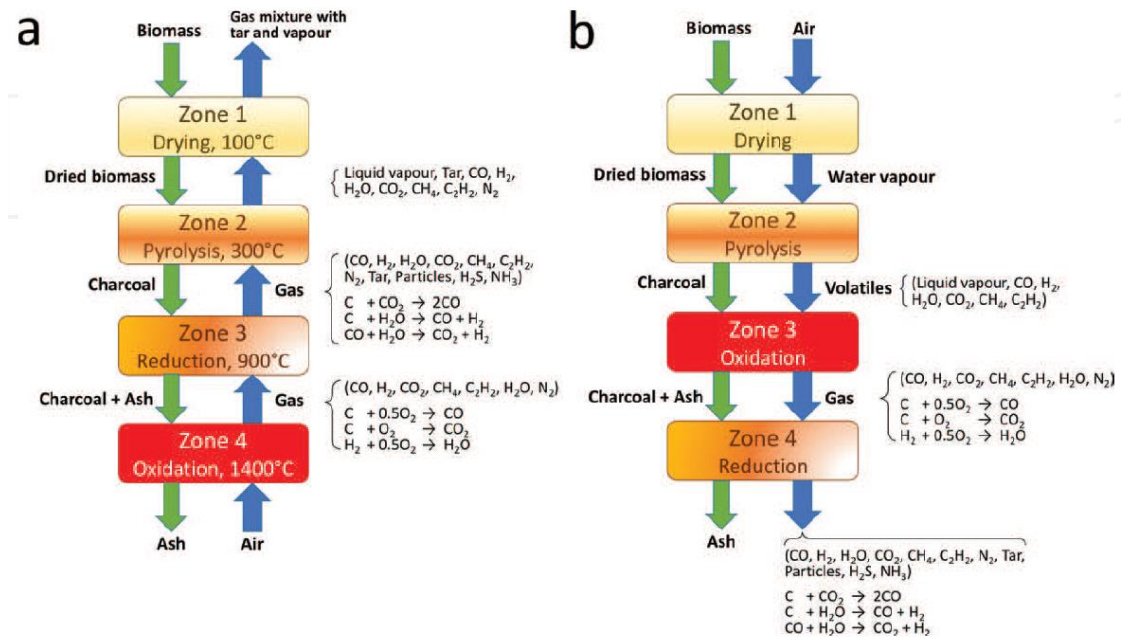

Figure-4: Conceptual diagram of multiple steps in fixed-bed (a) updraft and (b) downdraft gasifiers
- ✓ main reactions occurring in the reduction step have been shown in 'Chemistry of Biomass Gasification' and also demonstrated in **Figure-4**